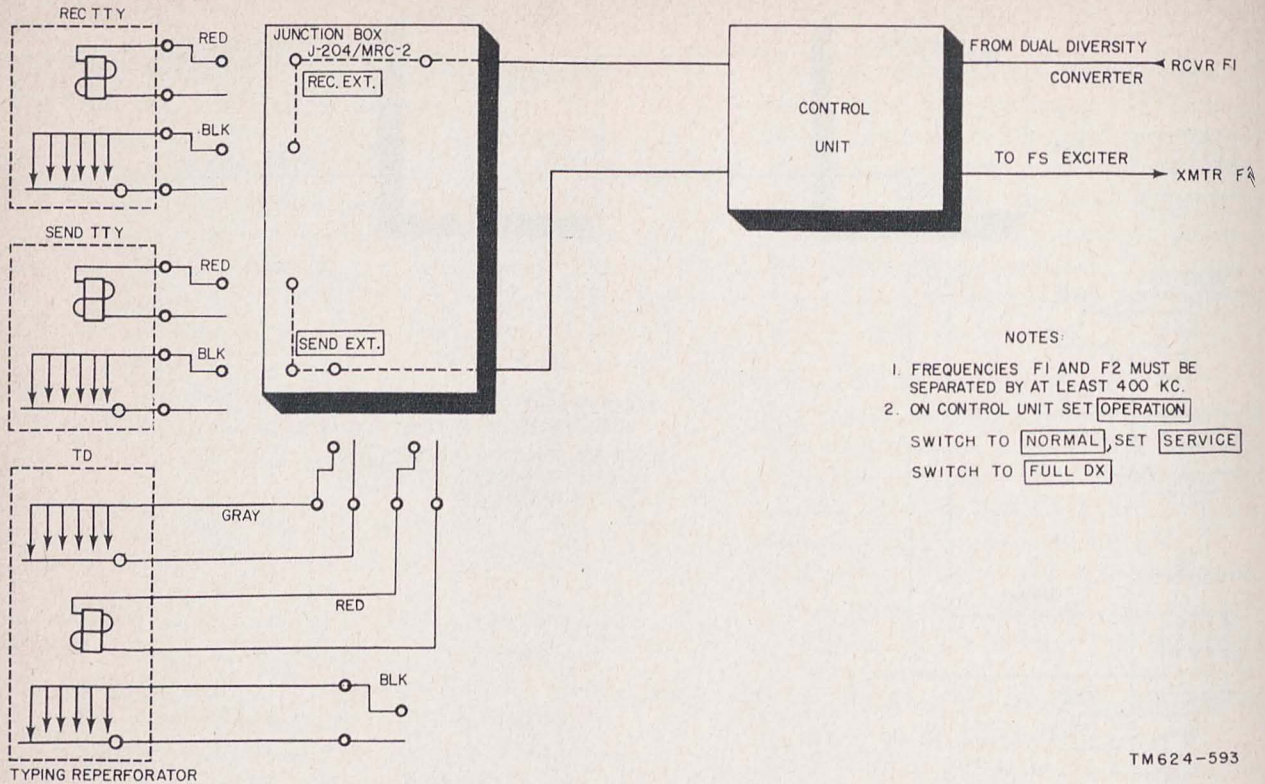

Figure 57. Radio Set AN/MRC-2(\*), full-duplex operation, functional diagram.
- (1) Full-duplex radioteletype circuits permit the simultaneous transmission and the reception of traffic. For full-duplex operation of Radio Set AN/MRC-2(\*), the following conditions must be met:
- (2) A full-duplex system is set up when the circuits are patched so that the selector magnet of one teletypewriter receives signal impulses from the receiving channel of the control unit, and the keyboard contacts of the other teletypewriter initiate signals for the transmitting channel of the control unit. The traffic-handling capability of a full-duplex circuit greatly exceeds that of a half-duplex circuit. Figure 57 illustrates a functional diagram of the teletypewriter equipments connected for full-duplex operation.